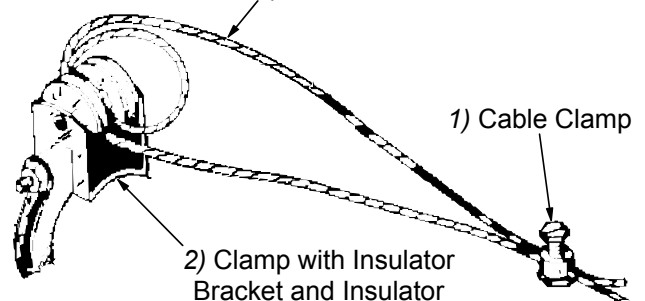

Figure 48. Anti-Roost Cable at the Hopper
2. Start at the hopper end of the line and form a loop around the anti-roost bracket. For best results, make a double loop around the anti-roost insulator in the center groove of the insulator and fasten with a 3/32" cable clamp as shown in Figure 48.